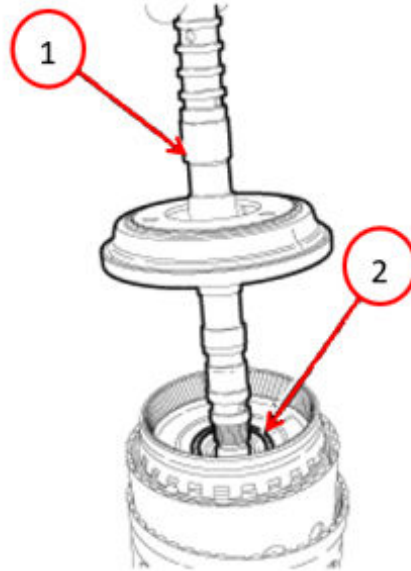

Fig. 29
46. Install the input shaft with P2 planetary carrier into the drum assembly Fig. 29.